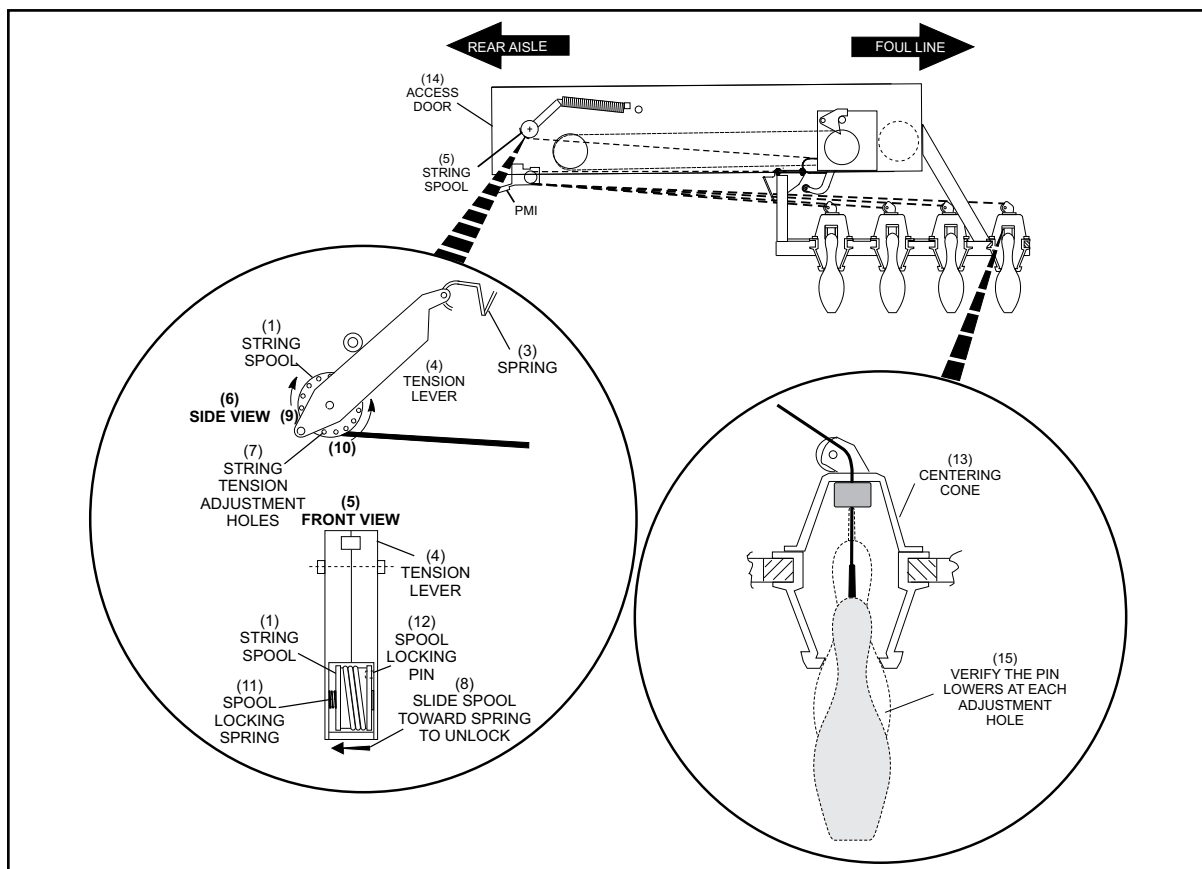

Figure 10. String Tension Adjustments
4. Perform the following procedure for each string that requires adjustment. Refer to *Figure 10*.
- c. Lower the pin by rotating the string reel three (3) adjustment holes. Observe the pin motion to ensure the pin drops with each hole increment.